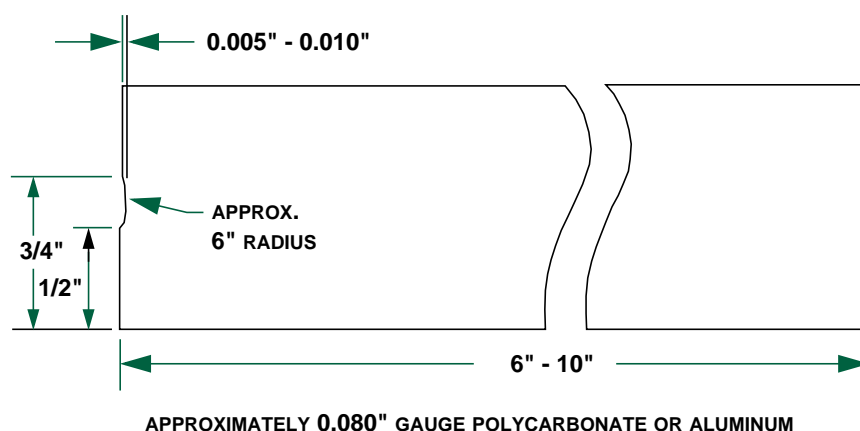
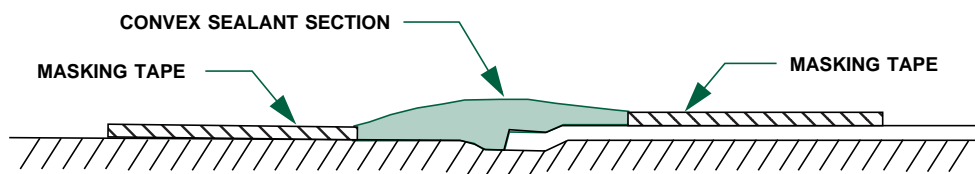

FIGURE 2 - SHOP AID SCHEMATIC
FIGURE 3 - APPLIED SEALANT
- 4.2.2 Shop aid shown in Figure 2.
- Step 5. Using the shop aid shown in Figure 2, smooth the sealant along the full length of the bead to form a slightly convex seal (see Figure 3).